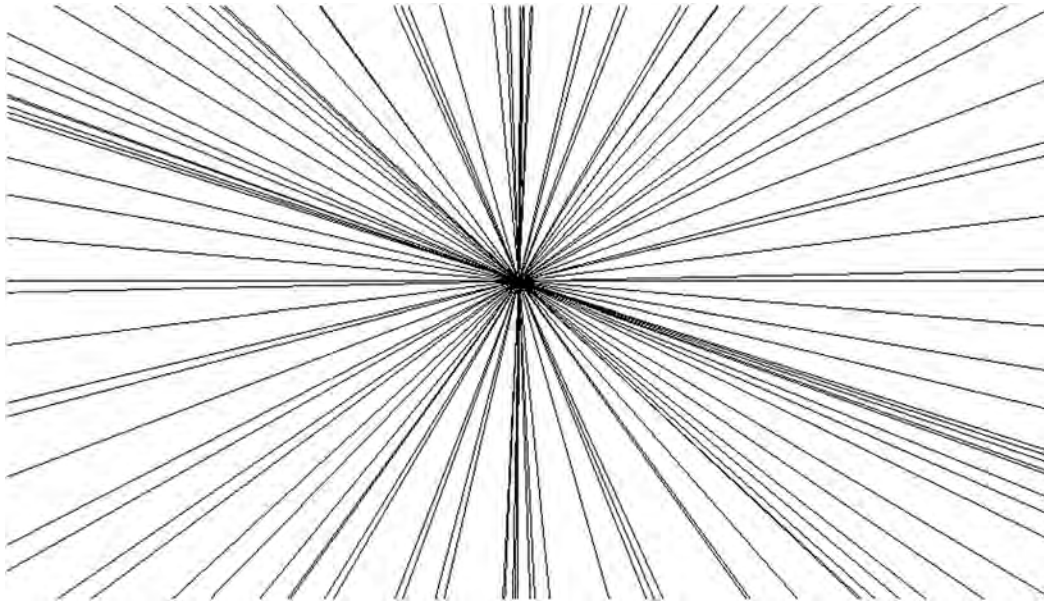
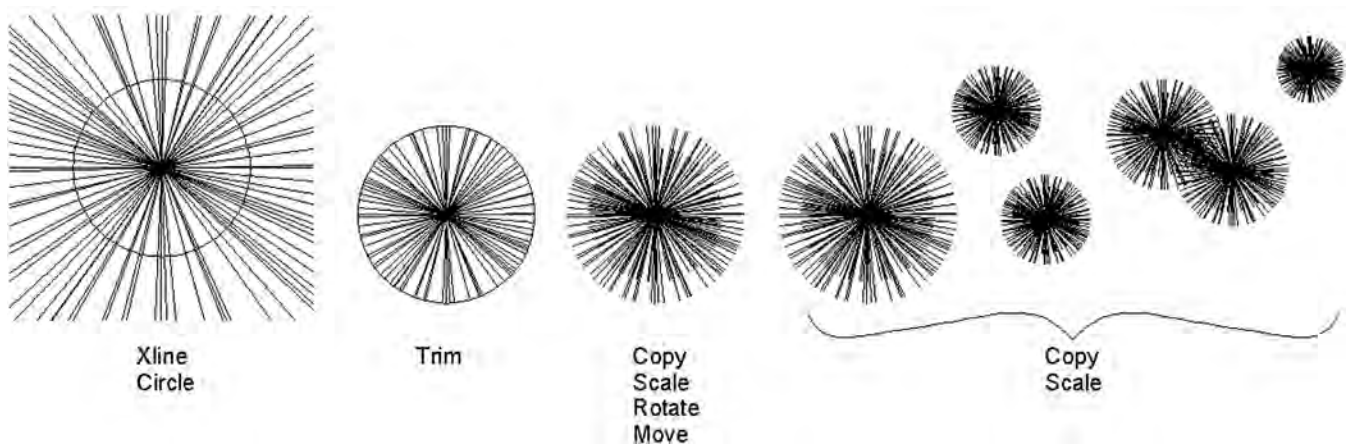

FIGURE 11.14
FIGURE 11.15
Step 3. Click randomly anywhere along the screen and multiple xlines appear. Figure 11.14 shows one result of clicking in a circular manner.
Figure 11.14 is perhaps not the most useful of creations, but landscape designers may find some use for the result of placing a circle at the intersection of those lines and trimming. Then, via some creative scaling, rotating, and copying, you get the reasonable representation of trees or shrubs in Figure 11.15.